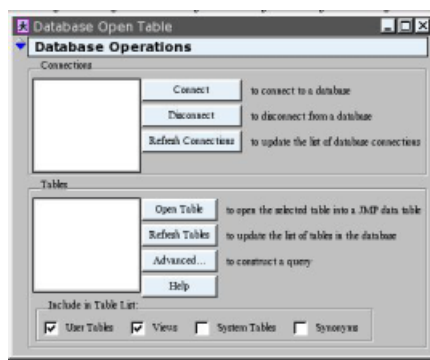

Figure 2: The Open Table window.
2. Click the **Open Database Table** button. The window in Figure 2 appears.